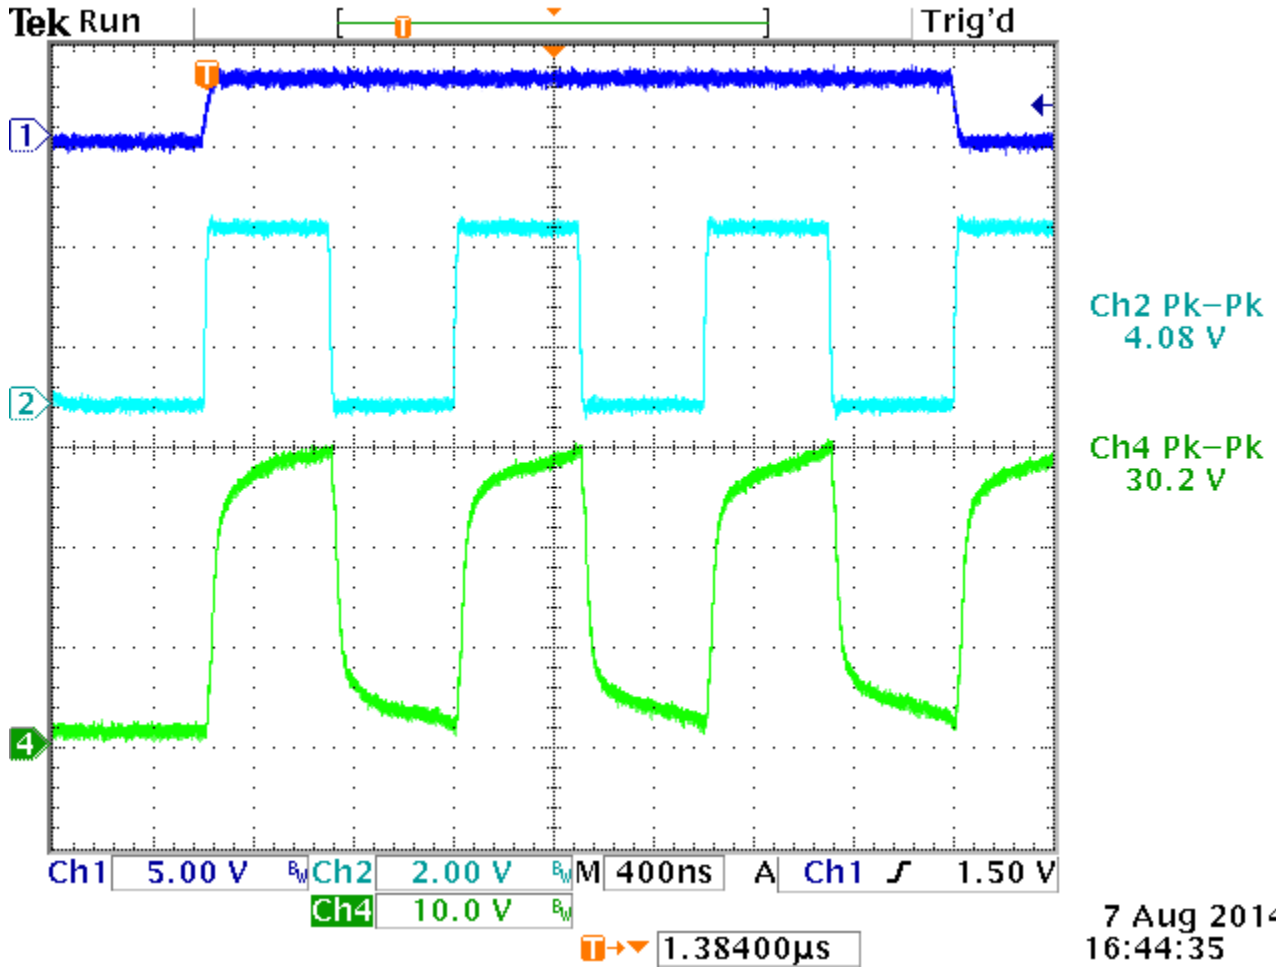

Figure 7. Top to Bottom:
8. Observe Tx pulses and voltage at the output of the high voltage drivers as shown in Figure 7. Tx and transducer voltage at connectors J1/2 should be in phase. Tx should have an amplitude of 3.7Vpk-pk and transducer voltage 30Vpk-pk.